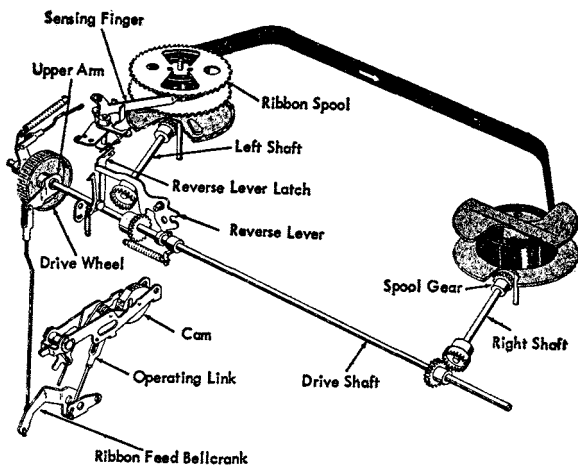

Figure 36. Ribbon Feed, Right Spool Driving
An operating link from the ribbon cam connects to a bellcrank which in turn operates the ribbon feed-link and upper-arm assembly (Figure 36). Rotation of the upper arm causes the inside spring-clutch to tighten about a hub on the plastic drive-wheel, rotating the wheel and the drive shaft to which it is connected. Gears connected to the drive shaft transfer this rotation to the ribbon spools. The lateral position of the shaft controls which gears will be engaged and which ribbon spool will feed.
2. SPOOL GEARS. Position the spool gears on the left-hand and right-hand drive shafts for minimum backlash without binding (Figure 36).